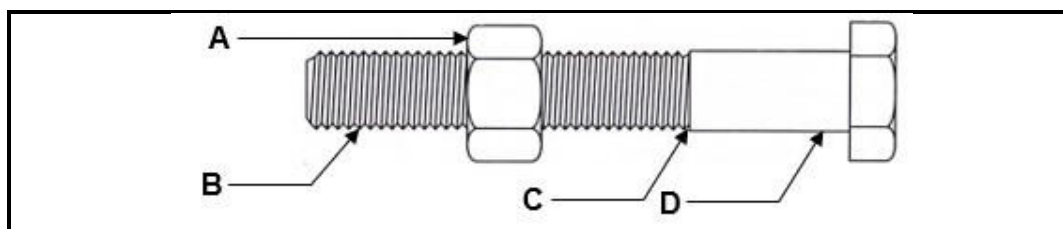

FIGURE 2.4
- 2.4 Name parts **A** to **D** of the bolt in FIGURE 2.4.